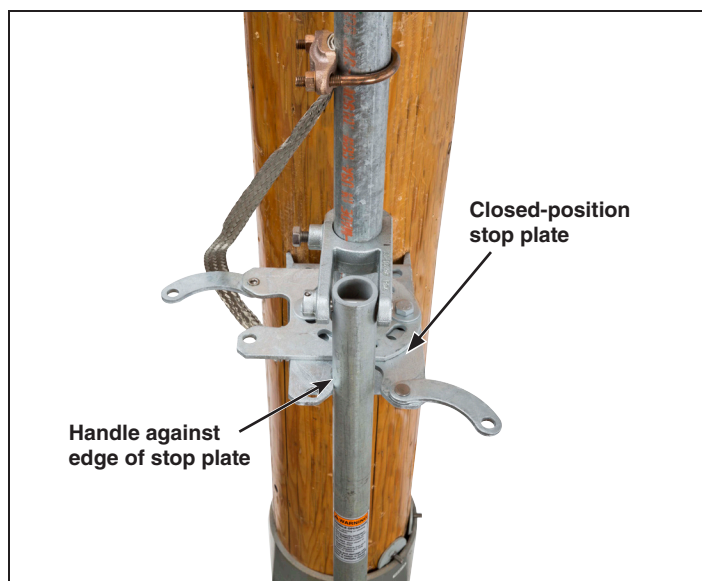

Figure 18. Adjust the closed position stop plate.
- (b) The stop-plate holes are slotted to allow room for adjustment. Position the operating handle in the stop plate and turn the operating handle as far as it will go in the **Closed** position. (Counterclockwise is standard on switches using the rotating operating mechanism.) The handle should be tight against the edge of the stop plate. See Figure 18. Mark the position of the closed stop plate. See Figure 19 (left).